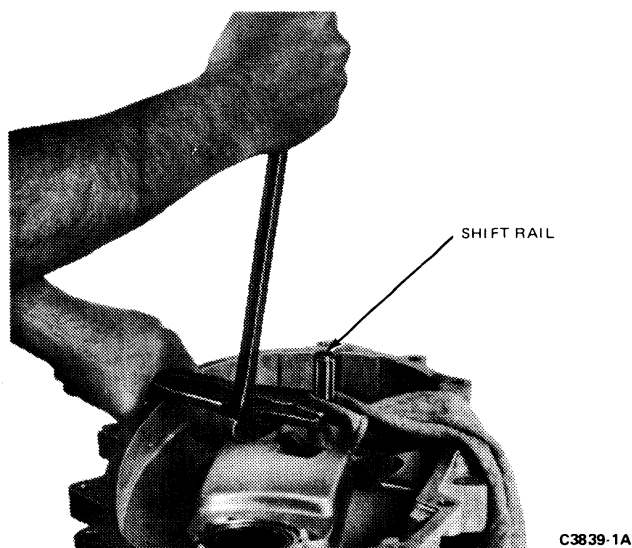

FIG. 13 Removing Shift Rail
13. Place a shop towel and vise grip pliers on the shift rail. Remove the shift rail by prying up on the vise grips with a pry bar as shown in Fig. 13.